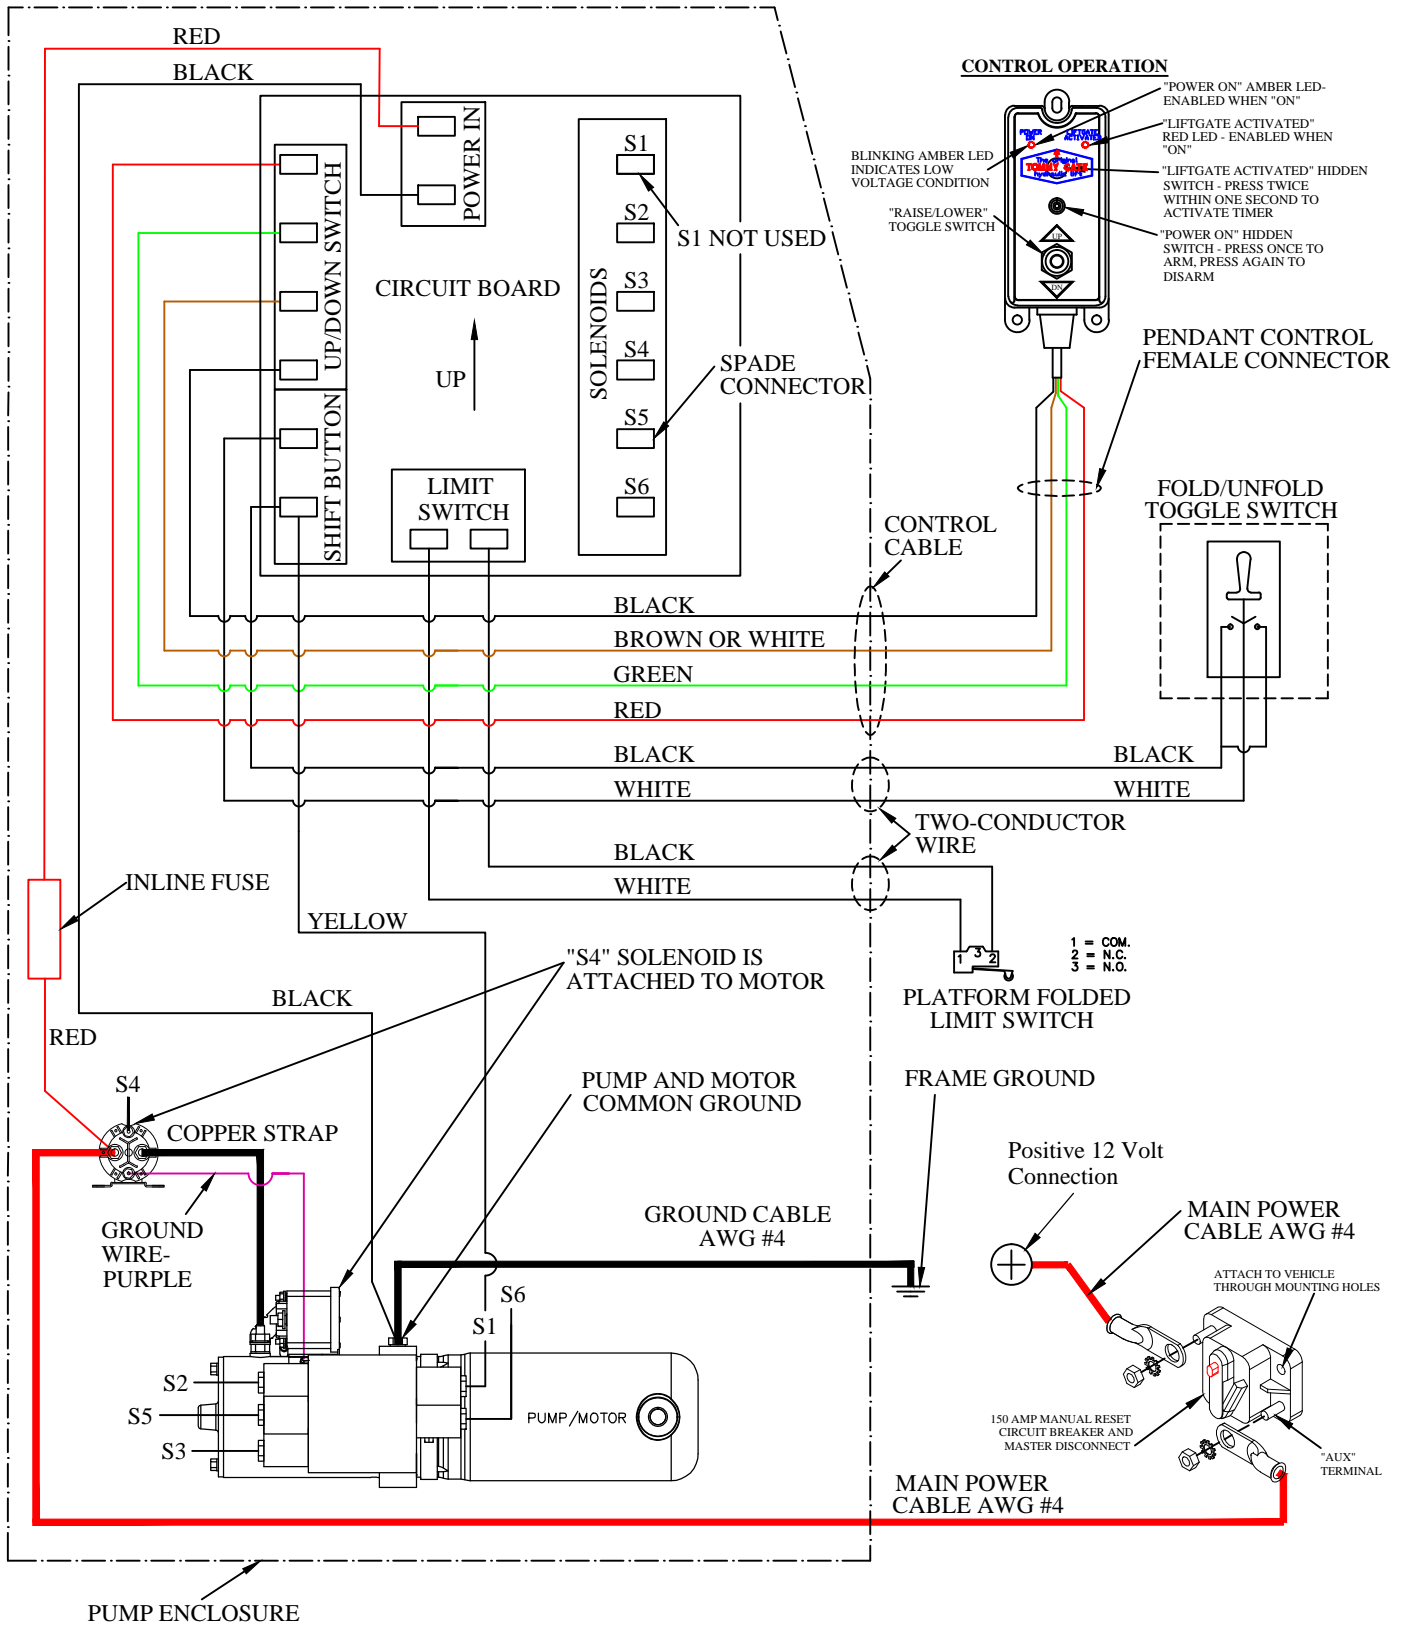

Figure 16: Wiring diagram.
Note: Follow the *Tommy Gate Recommended Electrical Wiring Guidelines* and wiring diagram (Figure 16) in the following steps.
12. **Connect** the circuit breaker (Figure 16). Use the supplied heat shrink tubing.
8. Mark the two (2) small holes to be drilled in the van wall using the mounting bracket as a guide.
10. Drill two (2) 13/64" holes in the locations previously marked.
12. Connect the wires to the toggle switch (Figure 16).
14. Install the supplied two (2) 1/4-20 self-tapping screws, through the female connector, through the mounting bracket, and into the van wall.